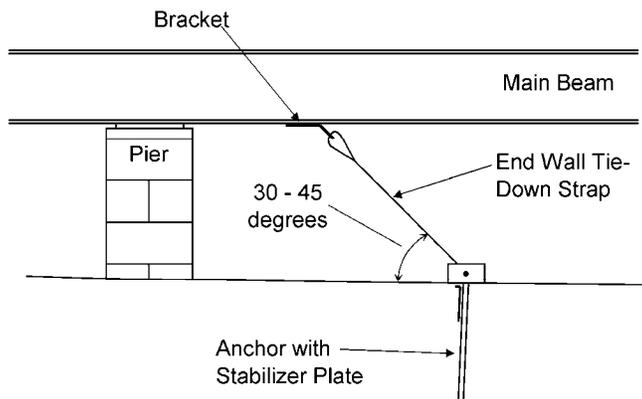

Figure 78. Procedure for connecting the strap to frame and anchor
2. **Connect strap to anchor.** Connect the other end of the strap to the split bolt in the anchor. Leave enough strap length to be able to make at least three, but no more than five complete turns around the bolt before it becomes tight (approximately 2 1/2 inches per turn or 7 1/2 to 13 inches total). Fewer than three turns and the strap may not hold onto the bolt when force is applied. Conversely, more than five turns may not fit within the U-channel of the anchor head. Follow the procedure outlined in Figure 78.